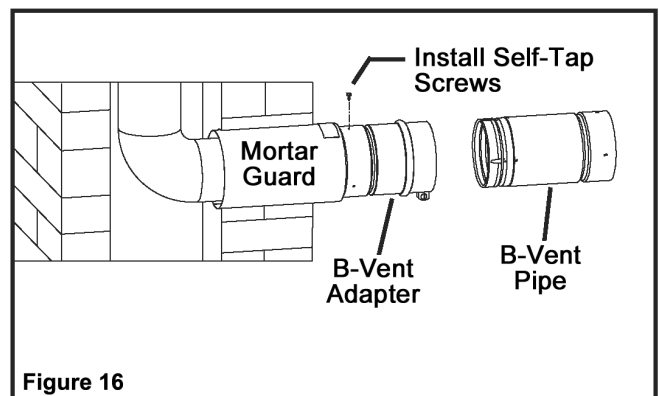

Figure 16
3. Engage the outlet end of the universal B Vent adapter with the flex pipe. Once fully engaged, secure the flex to the adapter using four (4) self-tapping sheet metal screws. Install the screws so that they penetrate through the flexible liner and the inner liner of the adapter (see Figure 16).